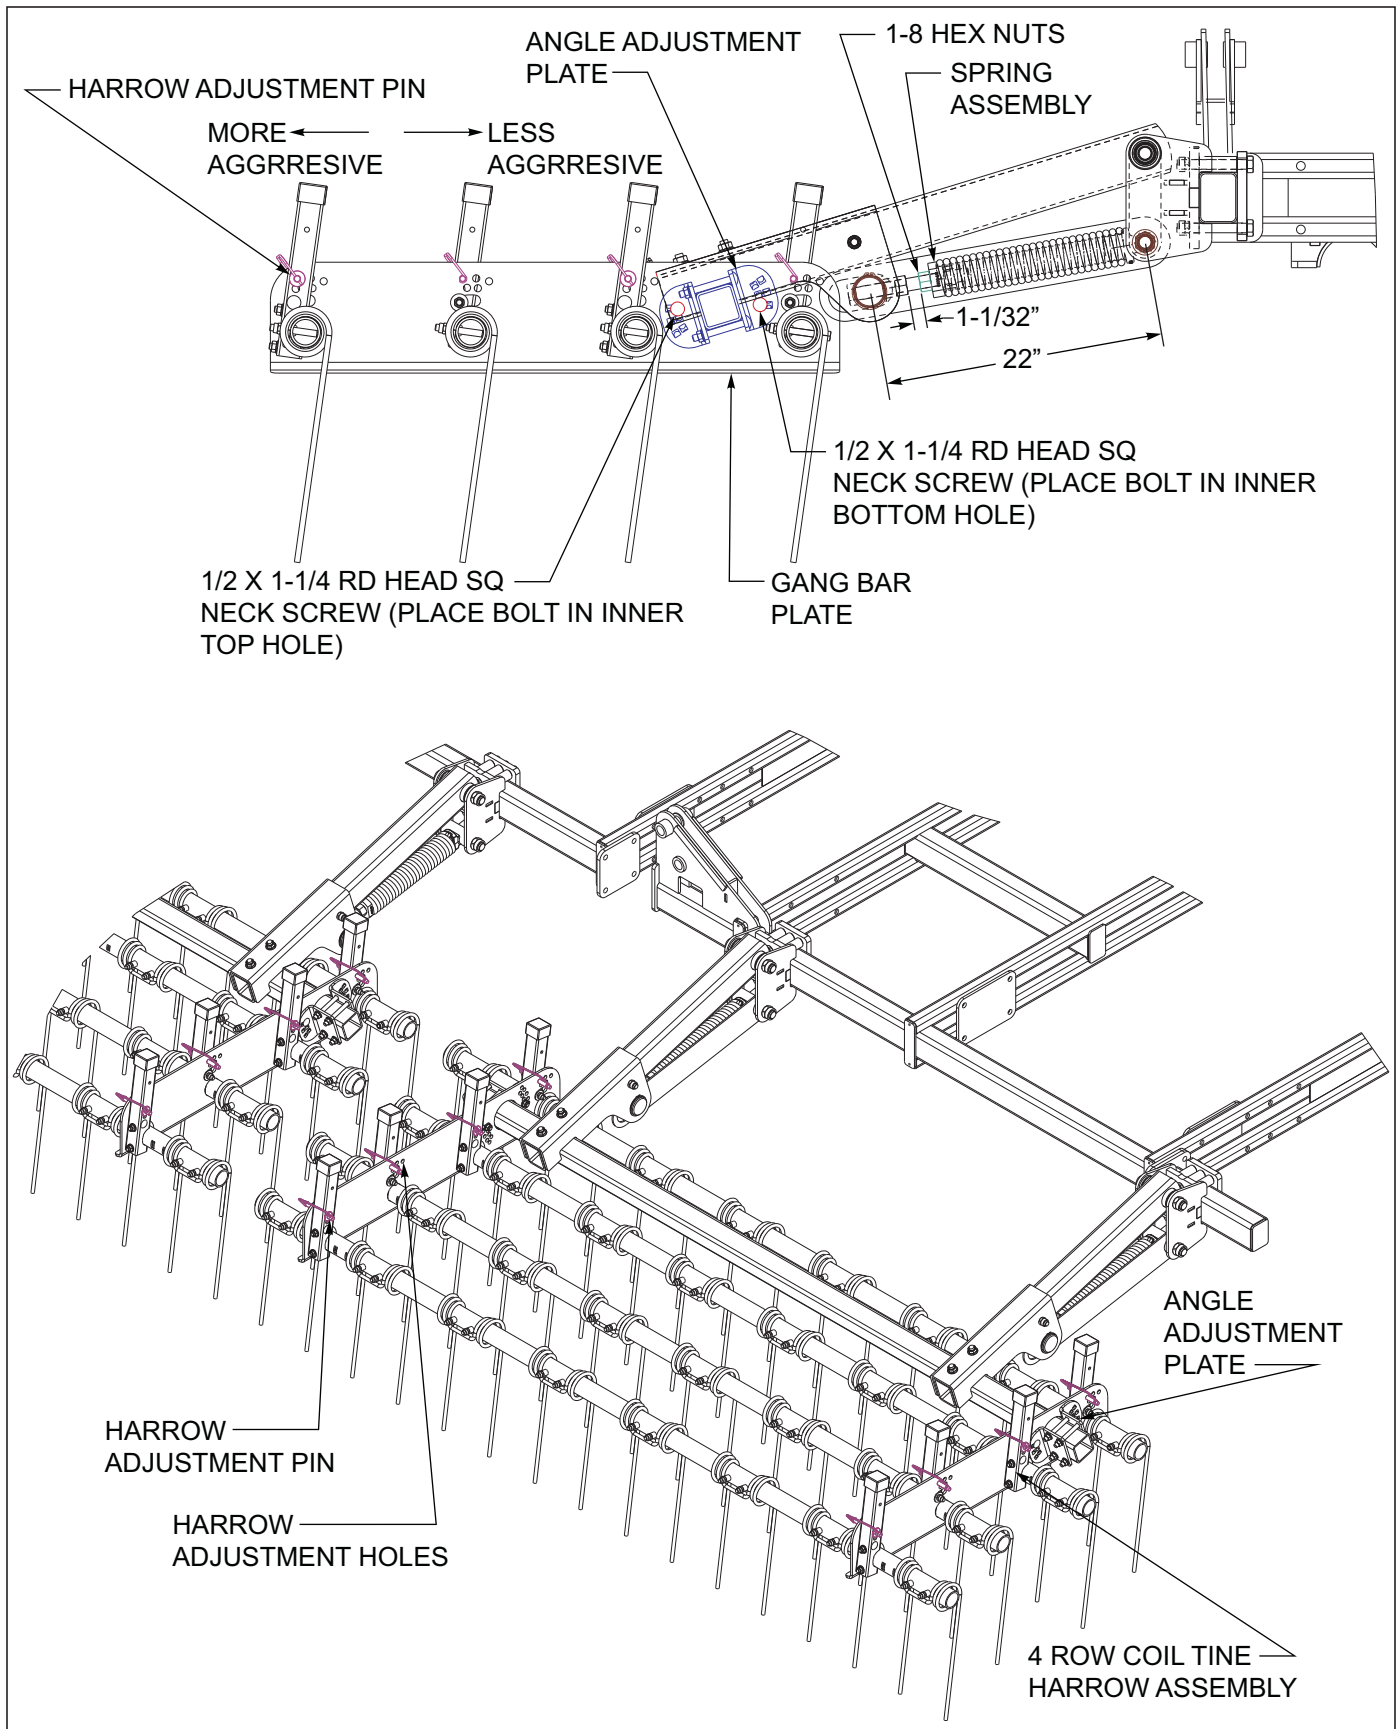

Figure 4-12: 4 Row Coil Tine Adjustment
2. In general tine harrows have better capabilities for handling more residue and wetter conditions. When operating the coil tine harrow, a more vertical tine tooth angle will make the harrow more aggressive. A lower/flatter tine angle will make the harrow less aggressive but will handle more residue and wetter conditions. To change the tine angle, raise the harrow off the ground. Remove the harrow pin from both angle adjustment tubes per tine gang bar tube See Figure 4-12. Rotate the angle adjustment tubes forward (less aggressive) or rearward (more aggressive) and reinstall both spring clip pins. Repeat the tine adjustment for each tine gangbar tube and harrow section.
3. The initial setting for the spring assembly should be 22". Each harrow section may also be adjusted for operating height. To change the harrow height See Figure 4-12, loosen both 1-8 hex nuts. Raise or lower the harrow arm by turning the bolt head for the spring adjustment bolt. Then re-tighten the 1-8 hex nuts. When initially setting the harrow height, the bottom tips of the tine tooth (pulled back at the desired tooth angle) should be approximately level with the field cultivator sweeps.